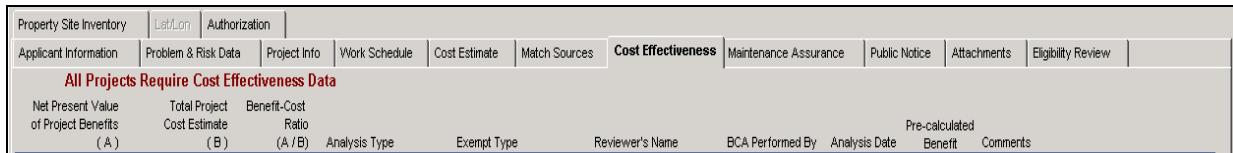

Figure 6-57: Mitigation > Projects > Application Development > Cost Effectiveness Tab
1. Click the **Cost Effectiveness** tab (Figure 6-57).